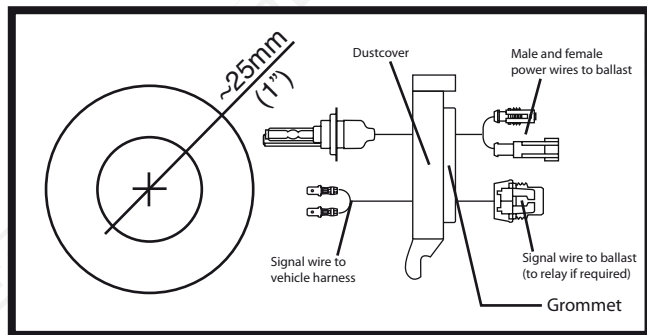

Figure 3.1
- Connect the vehicle harness to the signal wire that connects to the ballast. (see Figure 3.1)